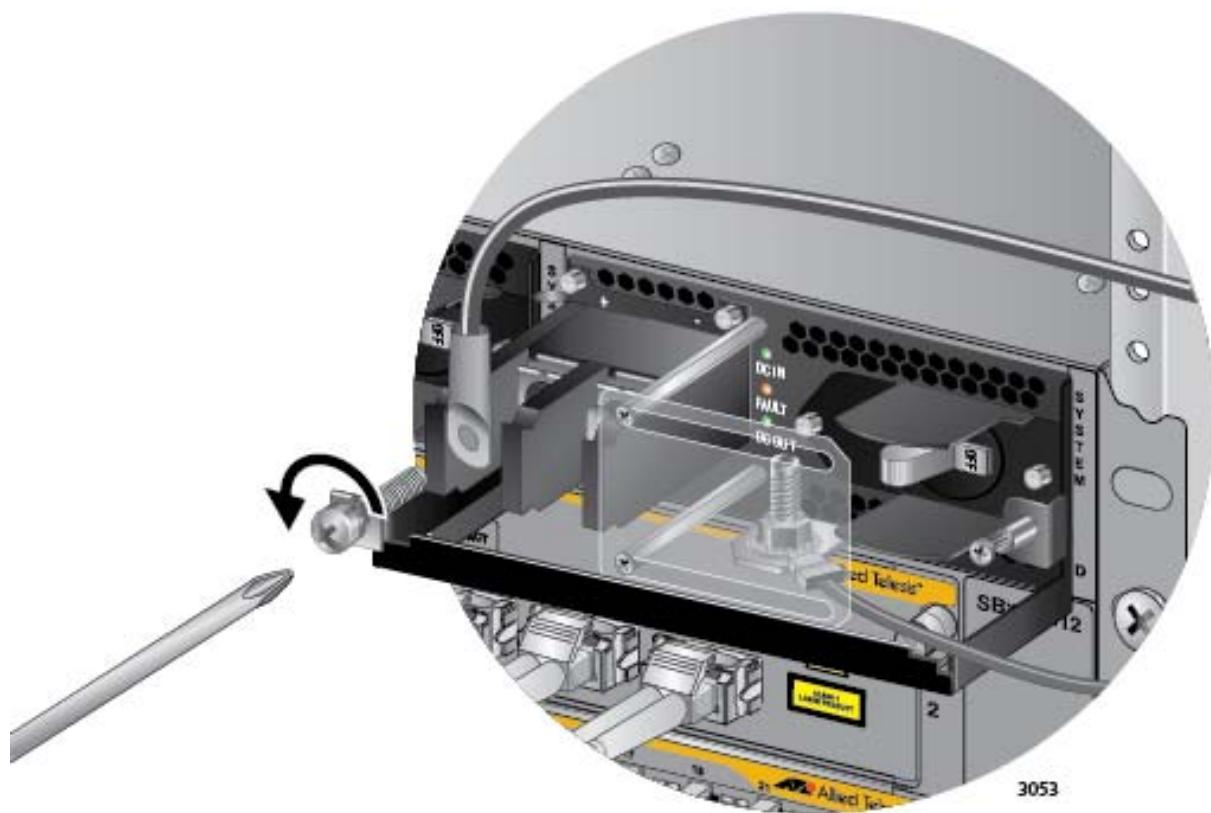

Figure 141. Removing the Positive Lead Wire from the Terminal Block
6. Use a #3 screwdriver to remove the positive (+) lead wire from the terminal block. Refer to Figure 141 on page 212.